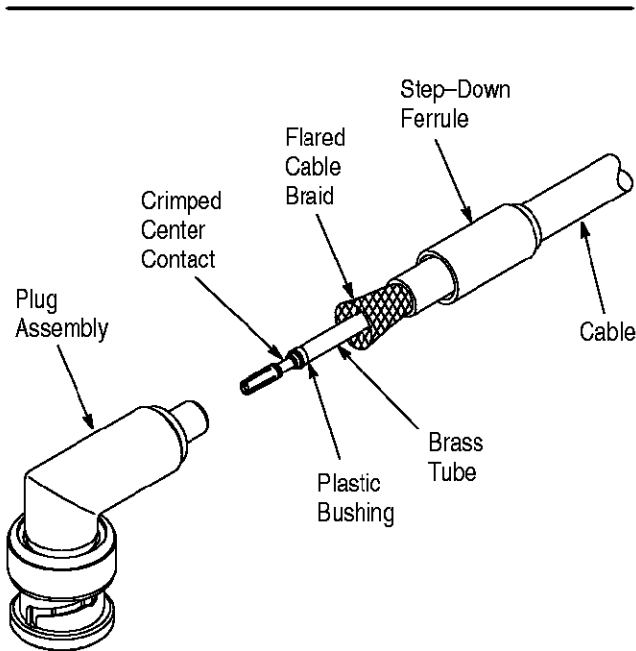

Figure 3
Refer to Figure 3 for orientation of step-down ferrule. For connectors supplied with tube and bushing, slip tube (flared end first), then bushing over the cable dielectric, as shown in Figure 3.
2. Insert center conductor into center contact. Crimp center contact using Hand Tool 354940-1 (fitted with the appropriate die assembly). See Figure 3.
- Updated Figure 3